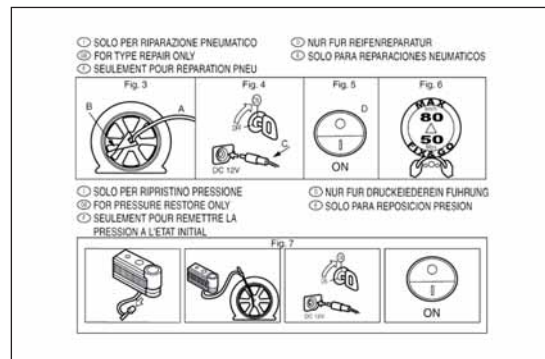

fig. 126
- ☐ an information leaflet fig. 126, providing instructions for using the kit correctly. This booklet should be given to the persons charged with handling the tyre treated with this kit;